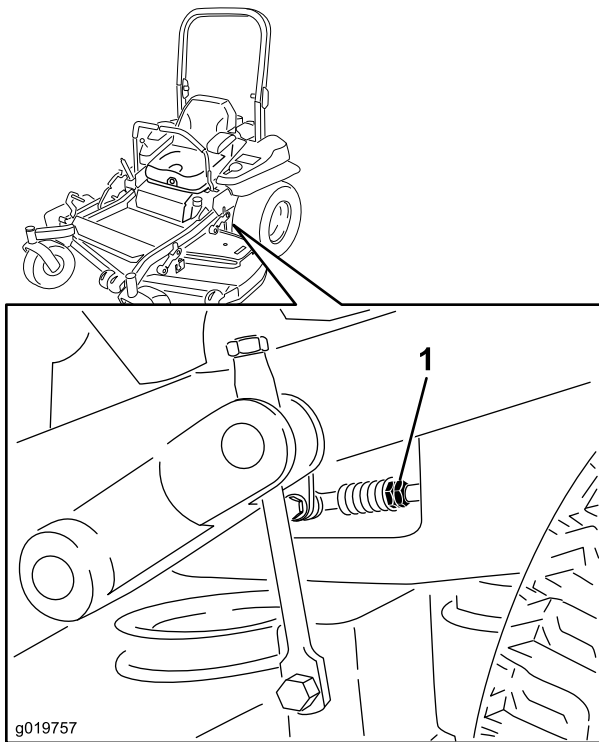

Figure 79
7. Bring the motion control levers into the neutral position. Adjust pump control rod lengths by rotating the double nuts on the rod in the appropriate direction until the wheels slightly creep in reverse (Figure 79). Move the motion control levers to the reverse position and while applying slight pressure to the lever allow the reverse indicator springs to bring the levers back to neutral. The wheels must stop turning or slightly creep in reverse.